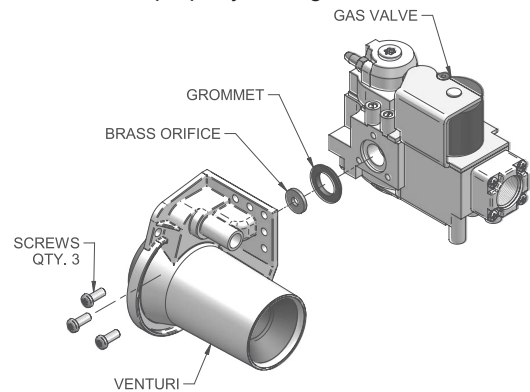

Figure 5. Installing Propane Orifice - Models 150-285
2. Remove the three screws securing the gas valve to the venturi. See Figure 5.
Place the orifice into the black rubber grommet in the side of the gas valve and secure in the valve (See Figure 5).
4. Reposition the gas valve against the venturi and replace the screws (See Figure 5) securing the valve to the venturi.
5. After installation is complete, attach the propane conversion label (in the conversion kit bag) next to the water heater rating plate. Attach the Propane (LP) caution label (in the conversion kit bag) to the left side of the unit in the lower left corner.